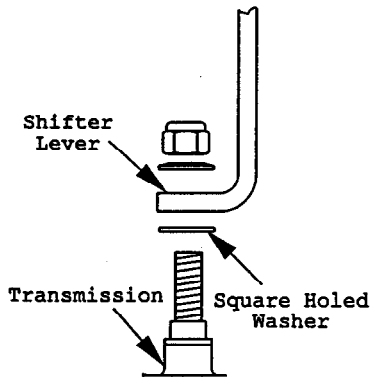

FIG. 5
- a) Remove the 3/8" nylock nut and spring disc washer from the stud on top of the transmission. Install the shifter lever through slot in shifter lever plate and onto the stud on top of transmission. Be sure the square-hole washer remains between the lever and transmission. Replace the spring disc washer and nylock nut (See Figure 5). Torque the 3/8" nut to 35 ft. lbs. (47 Nm).